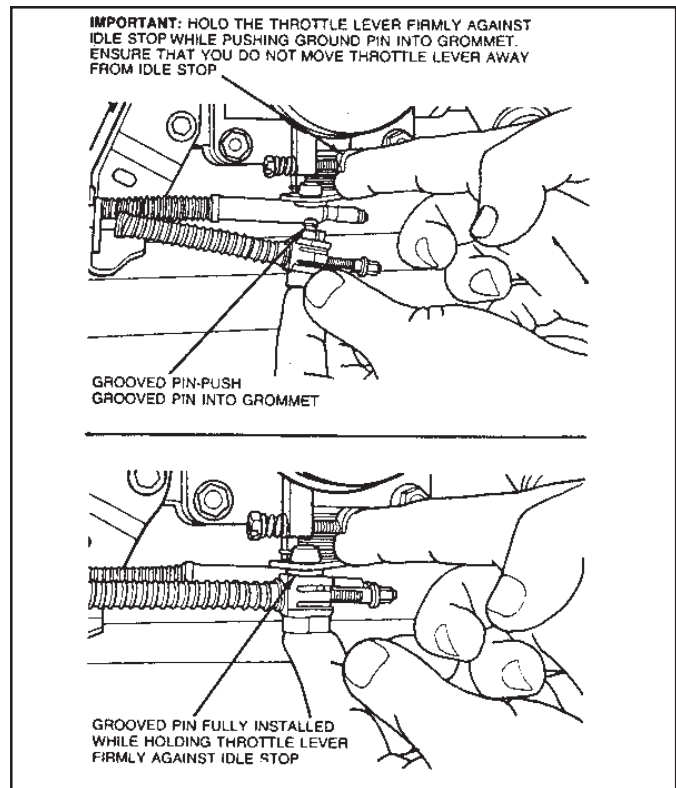

Figure 23
- 6.5 While holding throttle lever firmly against its idle stop, push grooved pin into grommet on throttle lever as far as it will go. **NOTE:** While pushing pin into grommet, make sure you do not move throttle lever away from idle stop. **(See Fig. 23.)**